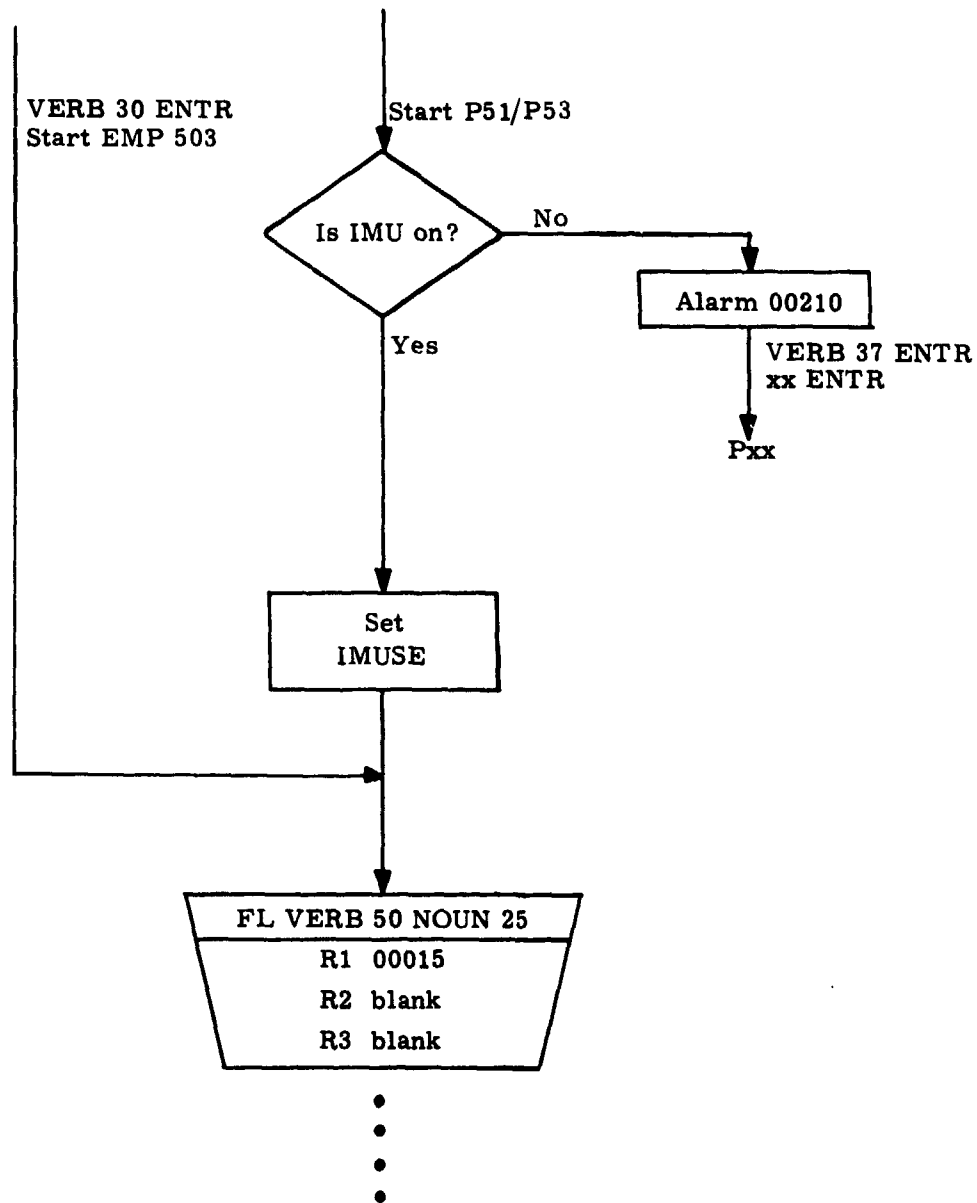

FIG: EMP 503
**FUNCTIONAL DESCRIPTION:** EMP 503 bypasses only the very first part of P51/P53 (see Figure: EMP 503), that part which determines whether the IMU is on and operating (bit 9 of IMODES30).